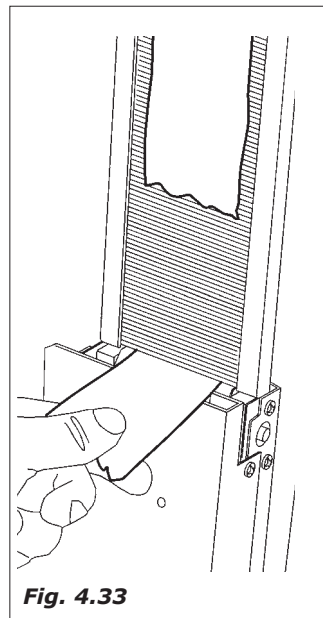

Fig. 4.33
- insert the spoons with their pack wrapping in the column and when they are positioned on the bottom cut and remove the wrapping (Fig. 4.33)